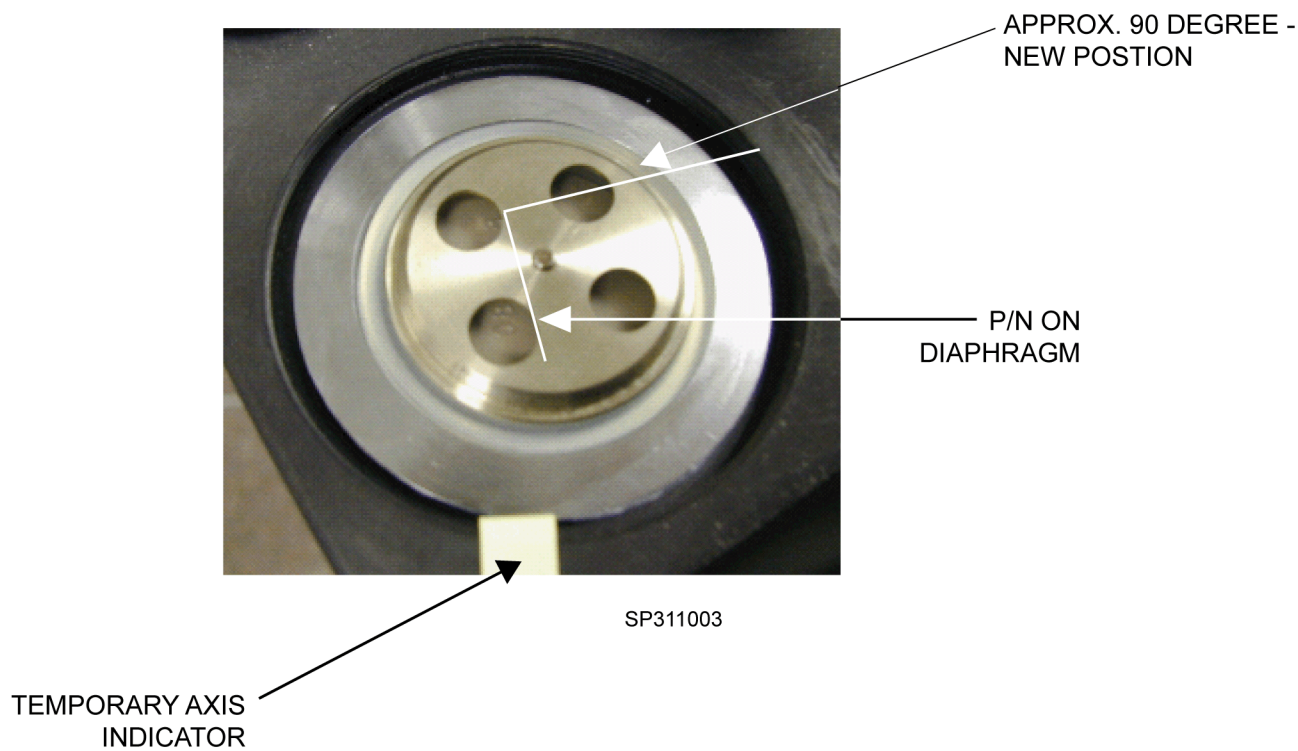

Fig. 3 PEEP/Pmax Adjustment
4. Using the part number as the reference, orient the diaphragm assembly approximately 90 degrees clockwise from the original reference point, and install. See Fig. 3.